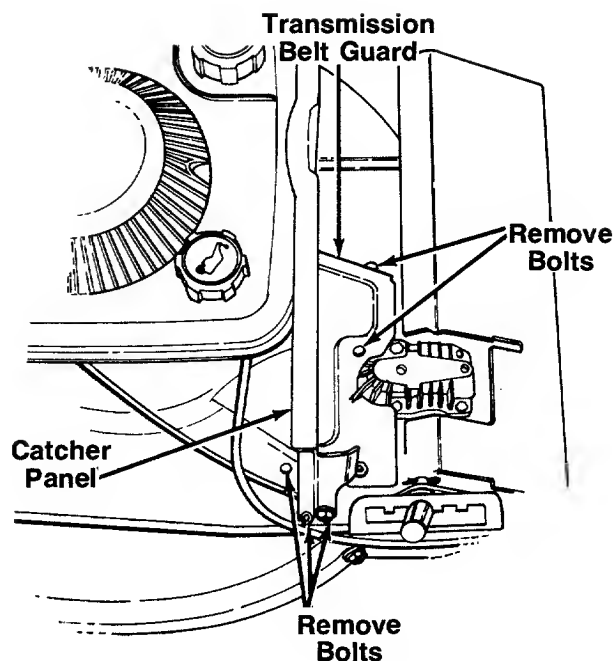

FIGURE 26.
3. Remove the transmission belt guard as follows. See figure 26.